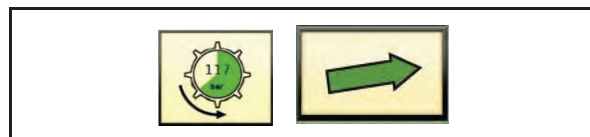

Fig. 169
- The symbols "Fill pick-up milling cutter" (Fig. 169/left) and "Fill elevator conveyor" (Fig. 169/right) appear in the terminal.
7. Move close to the silo stack such that the scraper bar (5) tightly fits the silo stack.